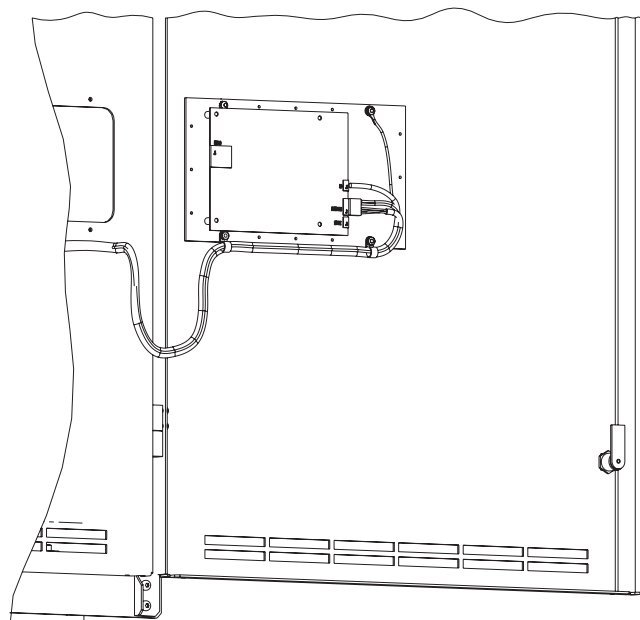

Fig. 18 — ICVC Communication Cables
6. Disconnect the communication cables from the back of ICVC (International Chiller Visual Controller) (Fig. 18).